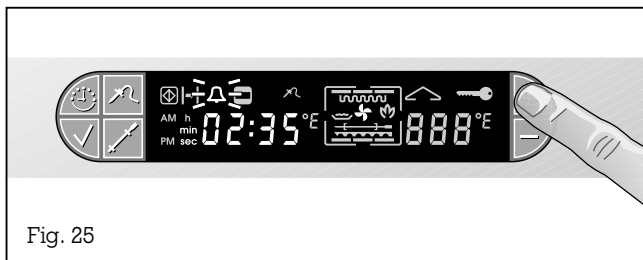

Fig. 25
- Press the + key. The short time symbol Δ flashes (Fig. 25).